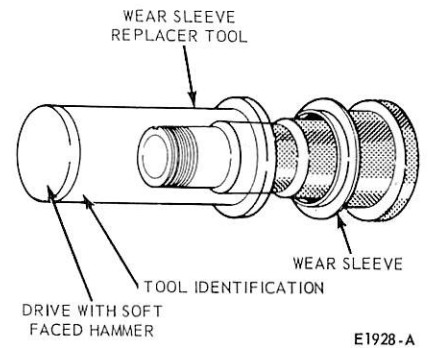

FIG. 3 Tool Application of Wear Sleeve (Wiper) Installation
2. Remove the retaining lock ring (Fig. 3).
The wear sleeves (500-9000 Series) must be installed squarely on the axle housing using the appropriate tools (Fig. 3). Do not use heat on the wear
sleeves to facilitate installation. Use the proper tool as shown in Fig. 3. The sleeves are designed with flanges to eliminate the possibility of installing the sleeves backwards. Although preservative has been applied to the wear sleeve prior to packaging, a light oil (SAE-10 or its equivalent) should be applied to the wear sleeve to facilitate assembly of the sleeve to the axle housing. After installation of the wear sleeve, the clearance between the end of the wear sleeve and inner wheel bearing shoulder should be 0.010 to 0.025 inches (Fig. 2).
7. Inspect the inner seal wear sleeve on the axle housing spindle for signs of wear or pitting. If necessary to replace the wear sleeve, use a hammer and a cold chisel. Being careful not to damage the seal journal of the axle housing, make two evenly spaced indentations in the wear sleeve surface and slip the wear sleeve off the axle housing. Thoroughly clean the spindle of the axle housing. Then, position a new proper size wear sleeve squarely to the axle housing spindle and, with the use of proper driving tool (Fig. 3), and a soft faced hammer, drive the wear sleeve on the axle housing spindle until it seats evenly against the shoulder of the seal journal of the spindle. A light coating of S.A.E. 10 oil should be applied to the inner surface of the wear sleeve to facilitate assembly of the wear sleeve to axle housing.